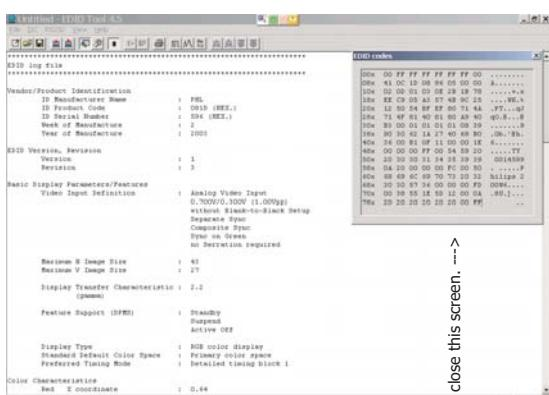

Fig. 14
4. Click icon (Read EDID function) to read DDC EDID data from monitor. The EDID codes will display on screen as shown in Fig. 14.